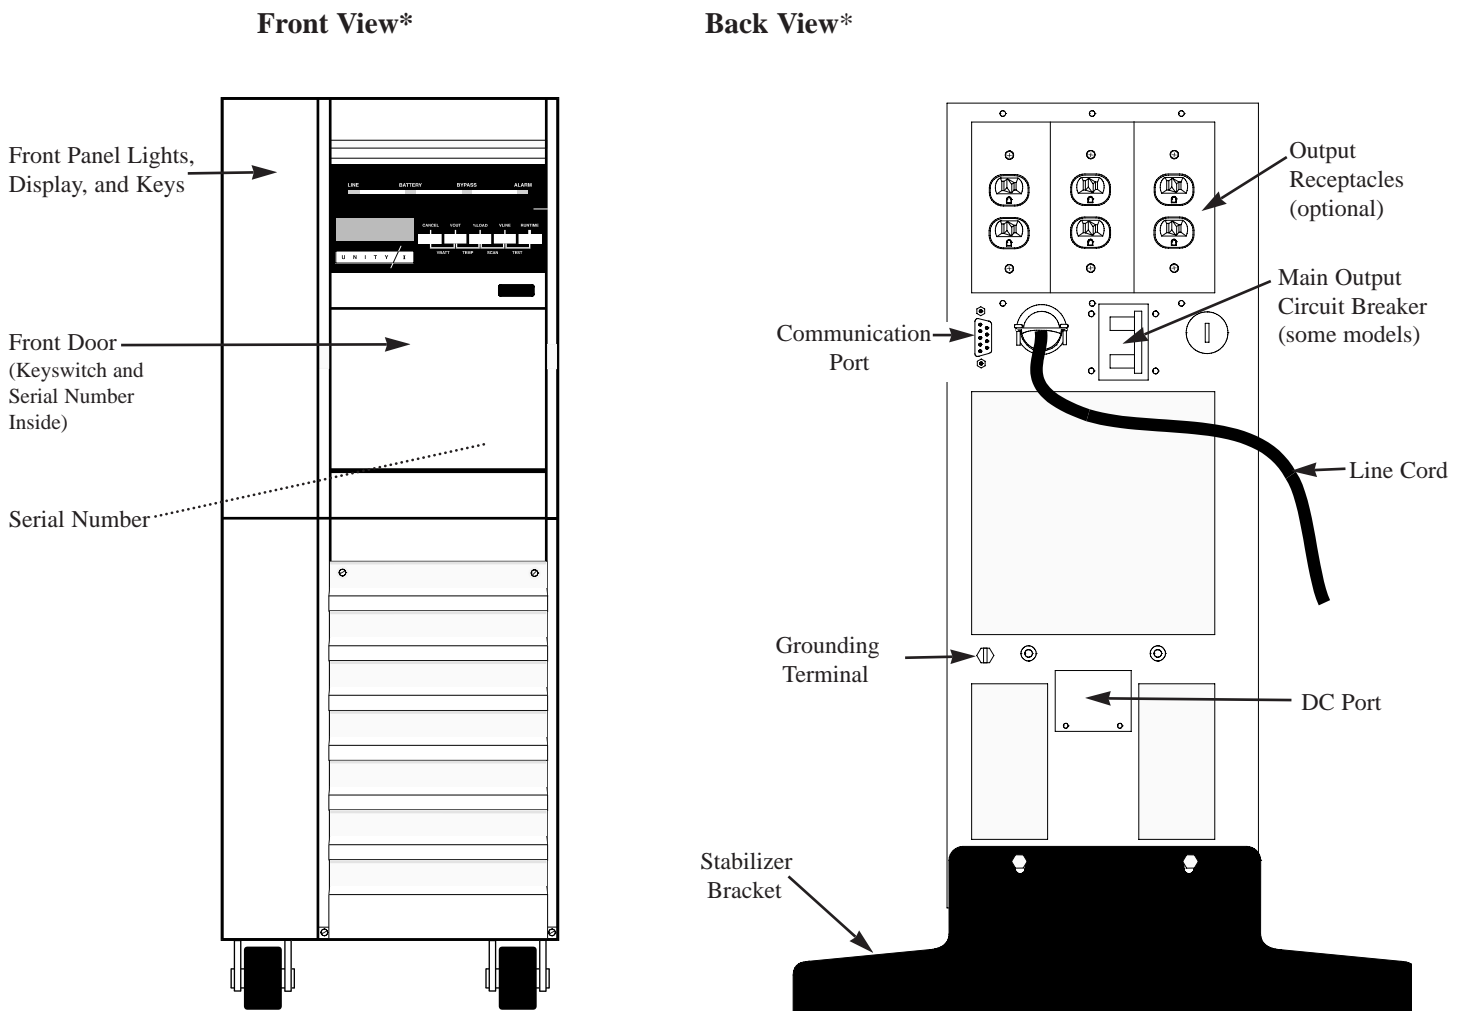
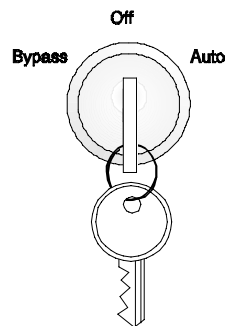

Figure 1
Figure 2
* The drawings in Figure 1 show a UT3K, UT4K or UT5K. The UT8K is similar in appearance.
2 Open the UPS' front door by pulling the top of the door toward you (see Figure 1 to find the door). Make sure that the keyswitch inside the front door is turned to "Off" (see Figure 2).
The UPS' front door is below the front panel keys (see Figure 1 in Section 100). To open the door, pull the top of the door toward you. The keyswitch and Emergency Power Off (EPO) reset button are inside the front door. In addition, the labels inside the door contain useful reference information. See Figure 9.